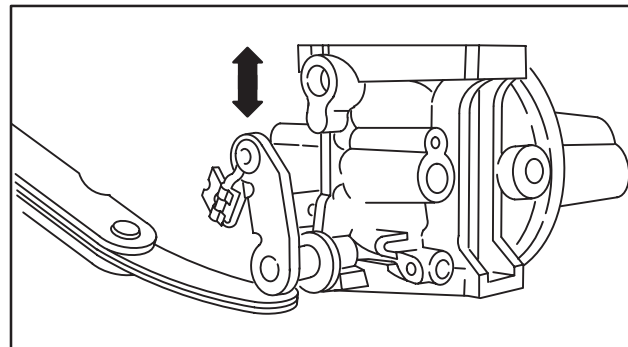

Fig. 13 – Checking Clearance
1. Lay carburetor on flat surface and check throttle and choke shaft clearance as shown in Fig. 13.